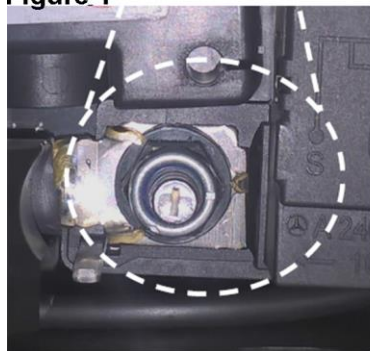

Figure 2
4. Remove nut (C) then remove cable (1) from current limiter post.
i **Note:** When loosening the nut (C), the cable (1) must be simultaneously pushed in the direction of the battery to prevent twisting of the starting current limiter (E) on the positive battery post. Subsequently, the starting current limiter (E) will contact the battery housing (Figure 2).
5. Remove nut (D) along with pre-fuse box cable.